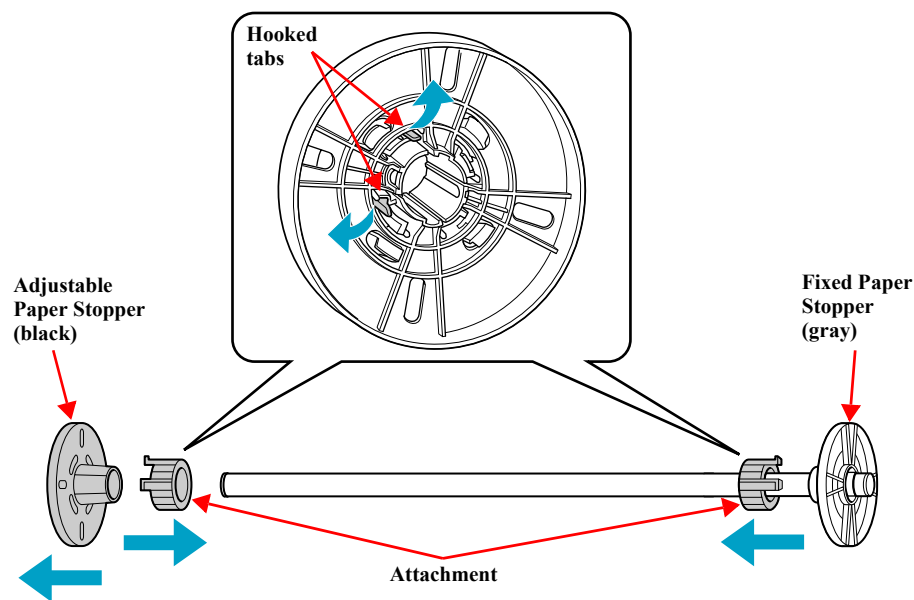

Figure 4-14. Disassembling the Spindle
2. Remove the Adjustable Paper Stopper (black) from the Spindle together with the Attachment. *See Figure 4-14.*
3. Release the two hooked tabs that secure the Attachment, and remove it from the Adjustable Paper Stopper (black) and the Fixed Paper Stopper (gray). *See Figure 4-14.*